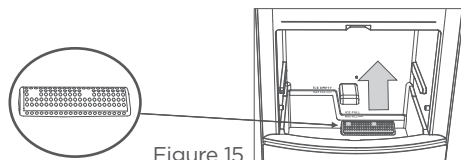

Figure 15
3.1.1 Open the ice bucket and remove the filter from it (see Figure 15).